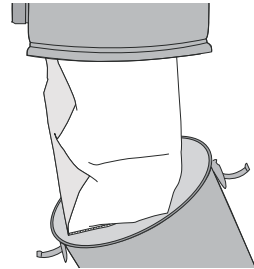

figure 13
1. To access the bag, unlatch the two clips and remove the dust receptacle (**figure 13**).